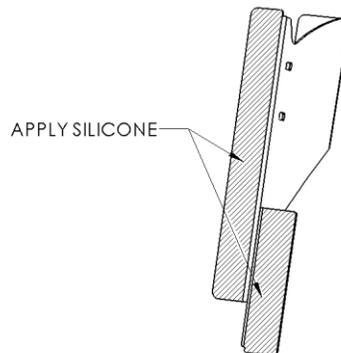

FIGURE 10 – Bracket sub-assembly, silicone application, shown from front view
- a. Apply a generous amount of silicone to the face of each bracket sub-assembly (See FIGURE 10).